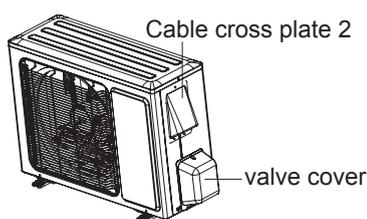

Fig.21
- (1) Remove the screw on the Cable cross plate 2 and valve cover of outdoor unit and then remove the Cable cross plate 2 and valve cover.(As show in Fig.21)